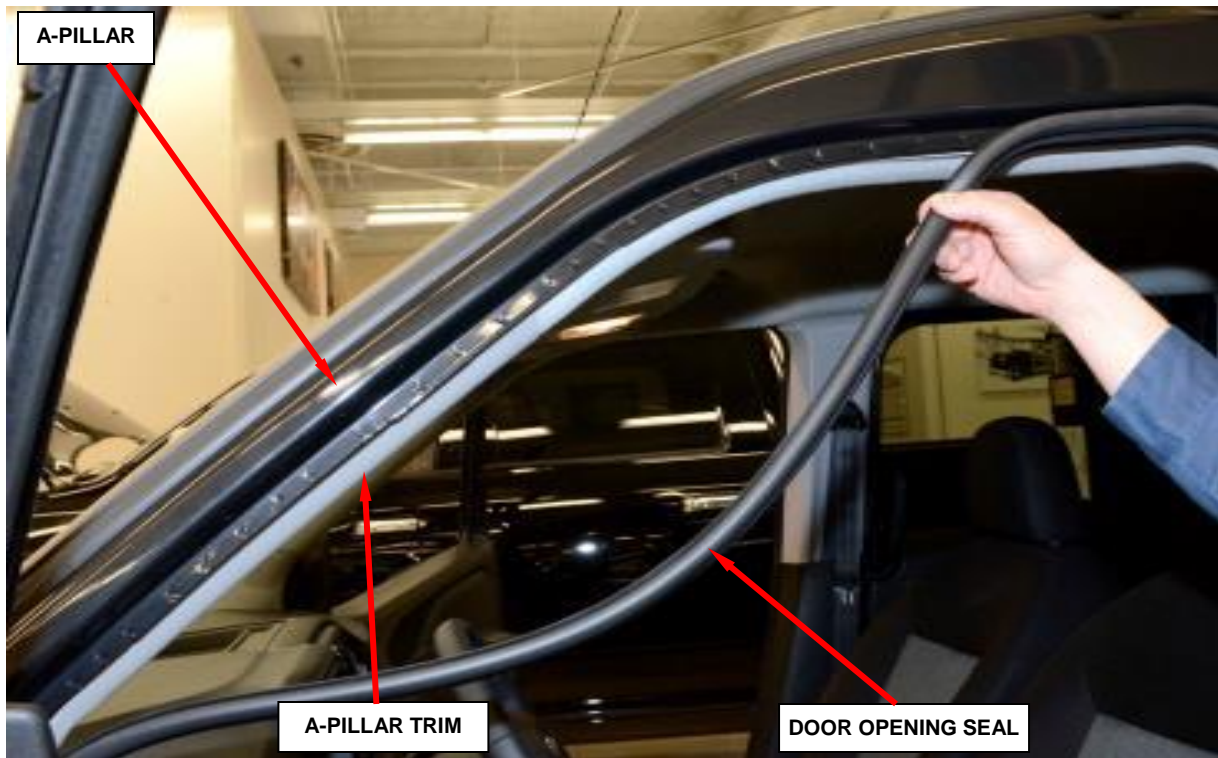

Figure 1 – Door Opening Seal
3. Partially remove the left door opening seal from the left A-Pillar (Figure 1).
8. Install the left door opening seal to the left A-Pillar (Figure 1).